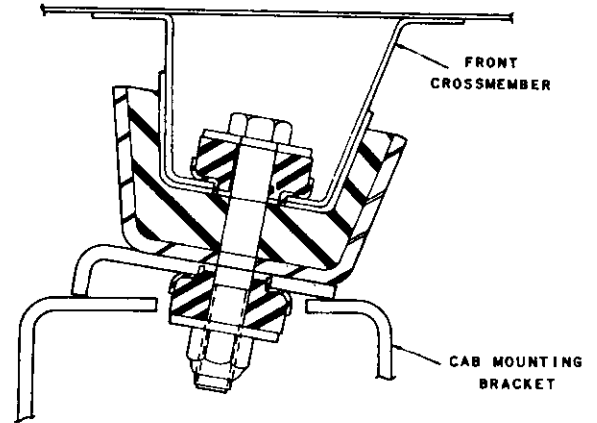

FIG 21 - CAB MOUNTING FRONT
*Removal of Cab Front Mountings (Figs 21